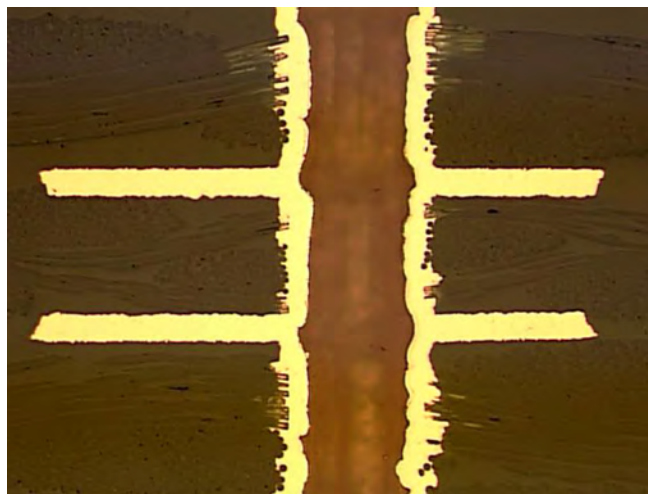

Figure 2: Rough and/or poorly drilled PTH. Glass fiber protrusions are evident.
- Glass fibers protruding from poor drilling (Figure 2)
Protruding glass fibers (Figure 2) affect PTH reliability in several ways. As an example, poor drilling practices cause the glass fiber bundles to be ripped out from the hole wall. These fibers then can act as a high spot leading to poor plating distribution within the hole wall. These areas are stress points that can lead to PTH failure during thermal loading.